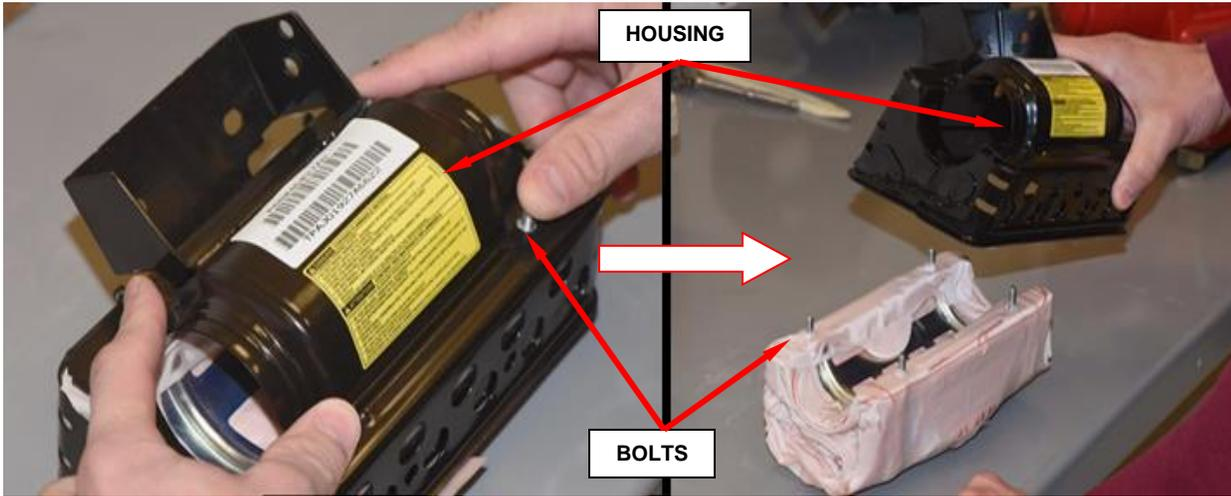

Figure 53 - Remove Airbag Cushion from Housing
- h. Remove airbag cushion from housing by applying pressure to the bolts, set cushion aside (Figure 53).